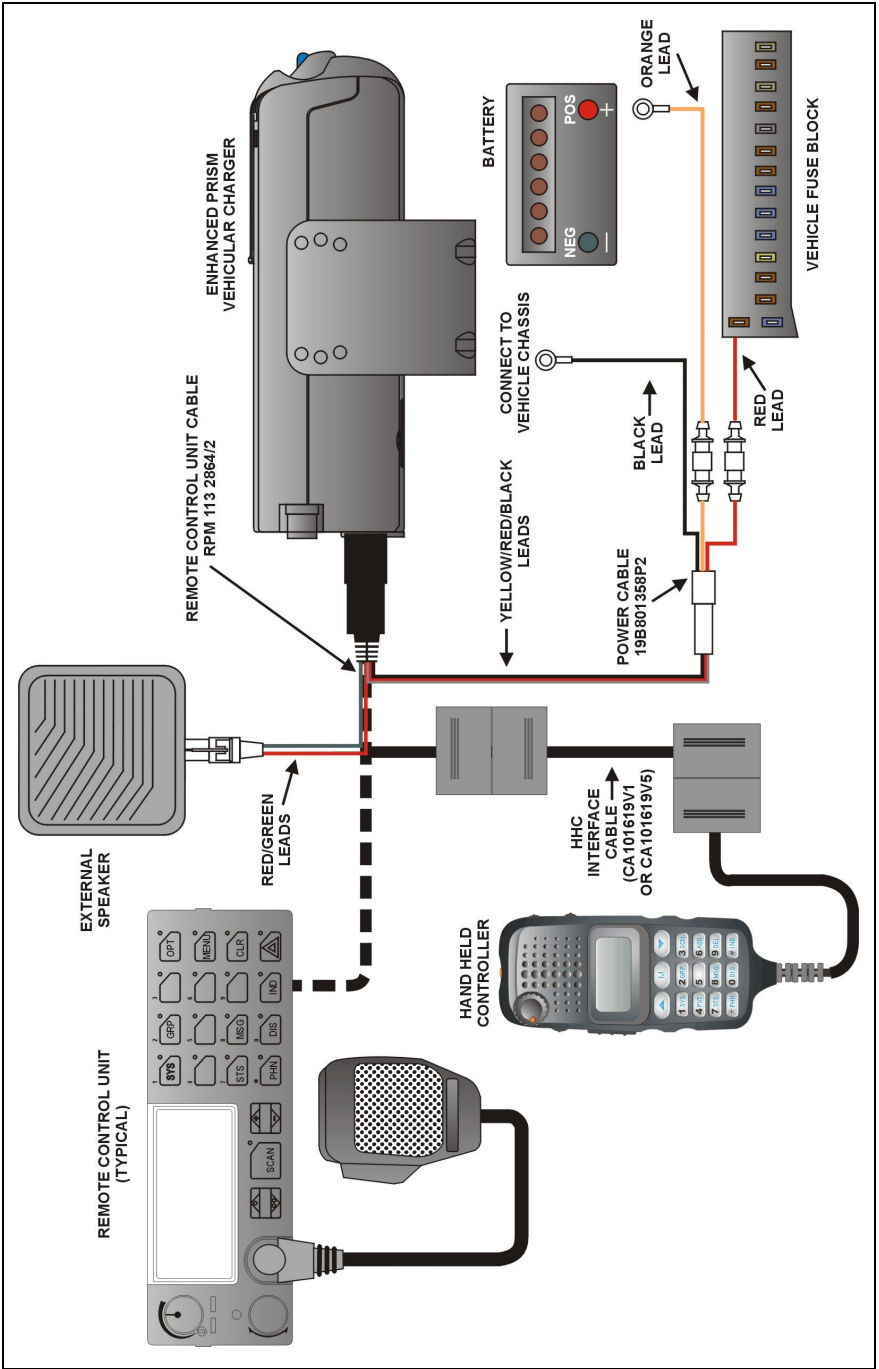

Figure 4-19: Remote Control Unit Installation Diagram
1. Using the remote control unit cable included with the control unit (RPM 113 2864/2), plug the DB-25 (male) connector into the back of the Vehicular Charger as shown in Figure 4-19.
2. Connect the end of the wire to an ignition “ON” sense point (preferably an “Accessory” point in the vehicle fuse panel) that is switched on when the vehicle ignition switch is in the ACCESSORY and RUN positions. This lead should be connected so the vehicle fuse protection is used. See Figure 4-19.
Connect the Molex connector from the remote control cable (RED and GREEN wires) to the speaker cable as shown in Figure 4-19.
Plug the microphone cable into the connector on the front of the control unit as shown in Figure 4-19. Secure with a flat blade screwdriver.